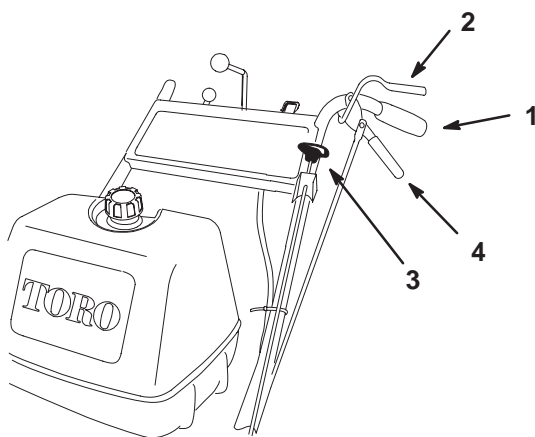

Figure 22
1. To engage blades, squeeze the Operator Presence Control (OPC) levers against handle grips (Fig. 22).
1. Push the blade control knob (PTO) down to off (Fig. 22).
2. Release Operator Presence Control (OPC) levers to disengage blades (Fig. 22). This will also kill the engine.